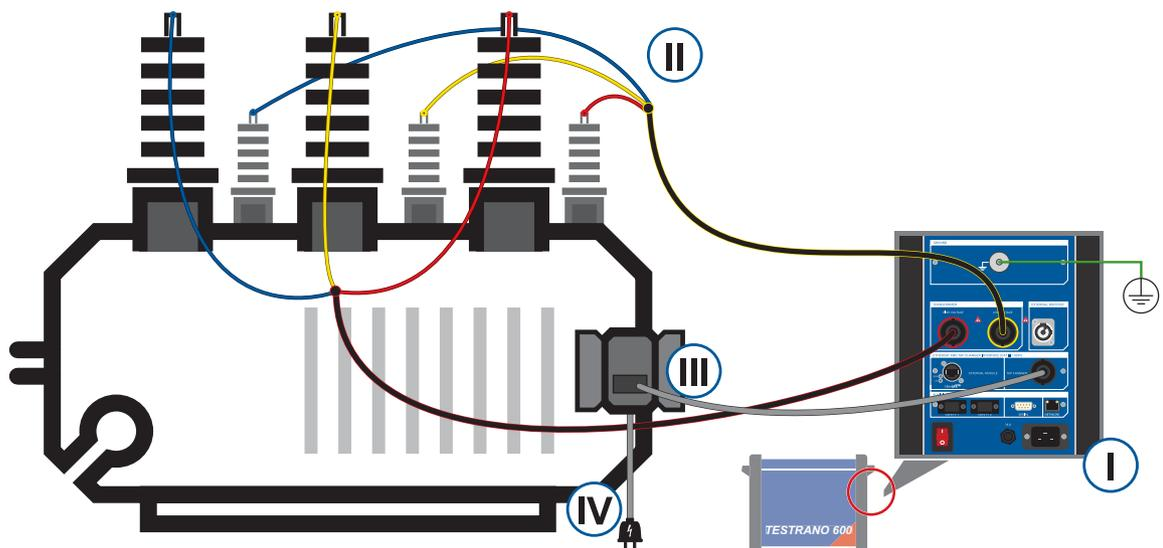

Figure 5-1: Connection sequence *TESTRANO 600* to transformer
1. Connect the test leads to *TESTRANO 600* as shown in the wiring diagram on the *TouchControl* or in *Primary Test Manager*. Additionally, observe the connection sequence given below in Figure 5-1: "Connection sequence *TESTRANO 600* to transformer":